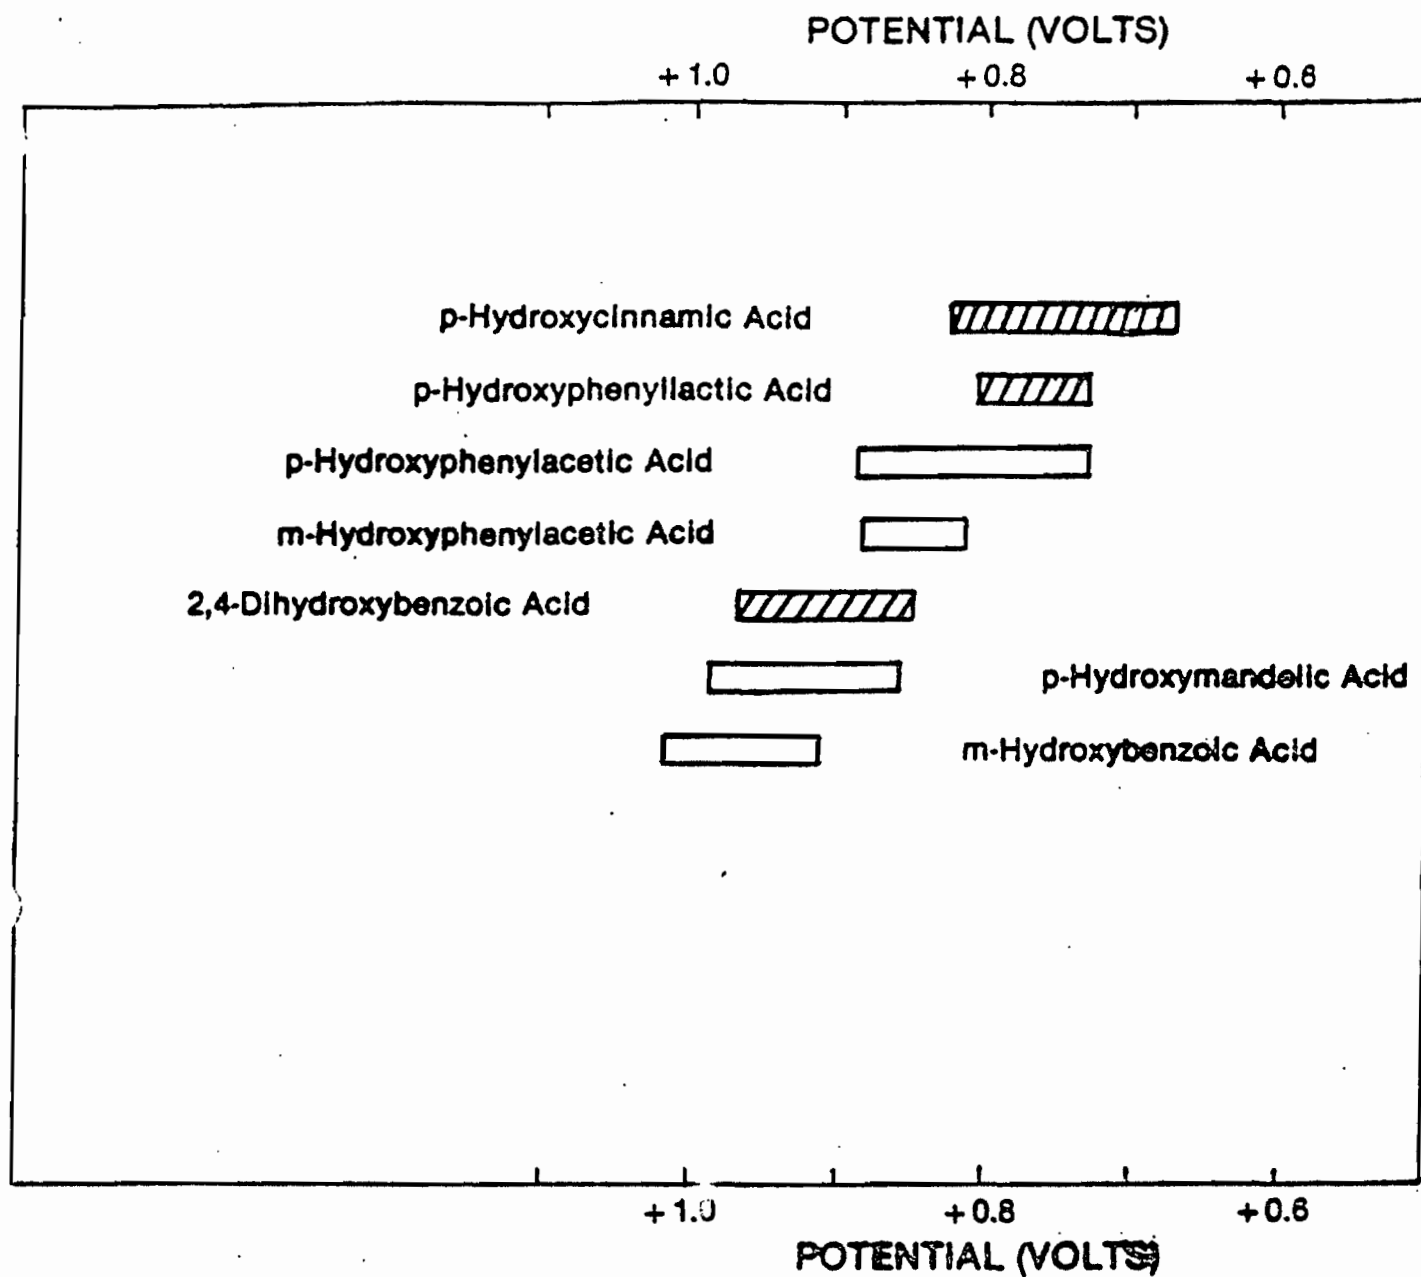

Figure 8 Oxidative Cyclic Voltammetric Data for Some Natural Phenolic Acids.
- Figure 8 Oxidative Cyclic Voltammetric Data for Some Natural Phenolic Acids.